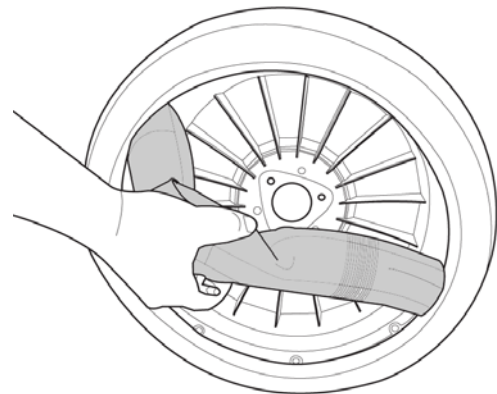

Figure 4-11: Extract Tube
10. Push valve stem through rim into tire and extract tube (Figure 4-11).